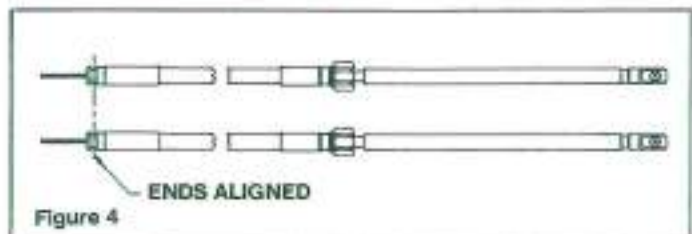

Figure 4
**STEP 2.** Push both output rams of the cables to the fully retracted position. Make sure that they stay fully retracted during installation into the helm. Remove the protective sleeves from Steering Cables, make sure that dirt does not get onto the lubricated cable ends. Hold both cables together at the helm end with the faces of the conduit fittings flush, as shown in Figure 4.